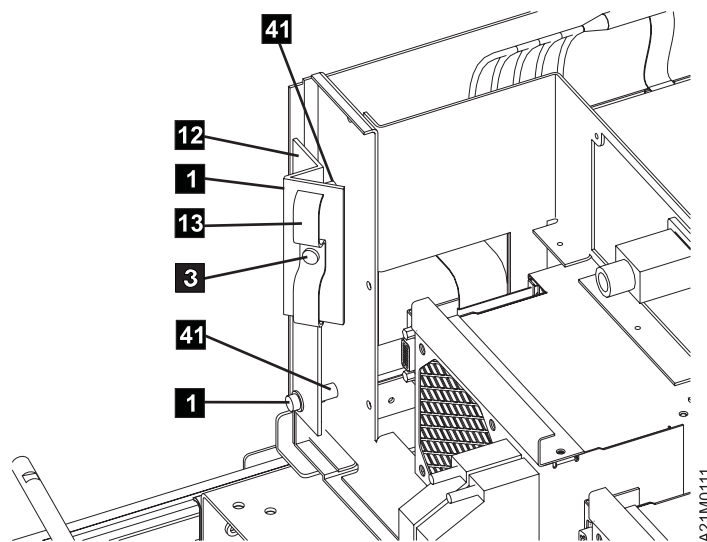

Figure 41. Attaching Cable Strain-Relief “Z” Bracket and Clamp
- \_\_\_ Step 8. See Figure 41 to install the cable strain-relief “Z” bracket **12** at the standoffs **41** at the rear of the library. Use two socket head screws **1**.